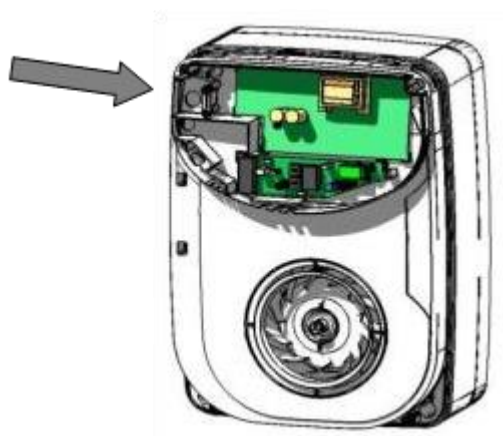

Figure 16
- 11.** Close the door and connect the electrical cable to the terminal block (Figure 16) as described in the "Electrical connection" section. Make sure to use the cable clamp correctly.